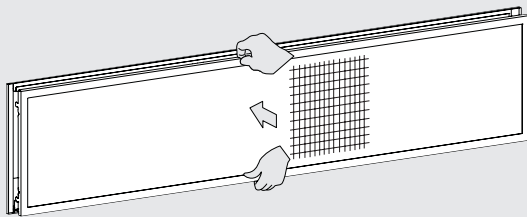

Figure 67
8. Replace the Barrier Screen onto the fireplace by lining up the tabs with the slots in the firebox. Push the barrier screen toward the unit and lower it slightly to lock in place. **See Figures 67 and 68.**